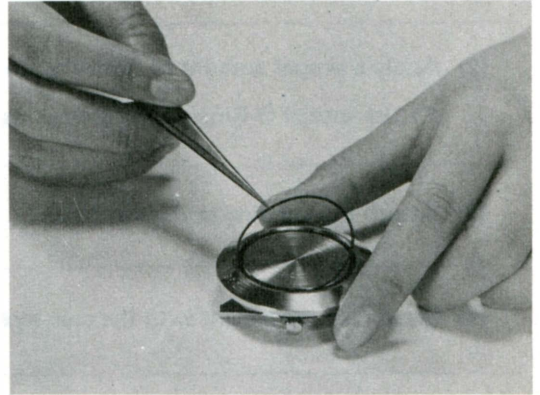

Fig. 7
- c. Place the O-Ring between the lower endpiece and the auxiliary piece and insert with tips of tweezers evenly along the rim carefully (Fig. 7).